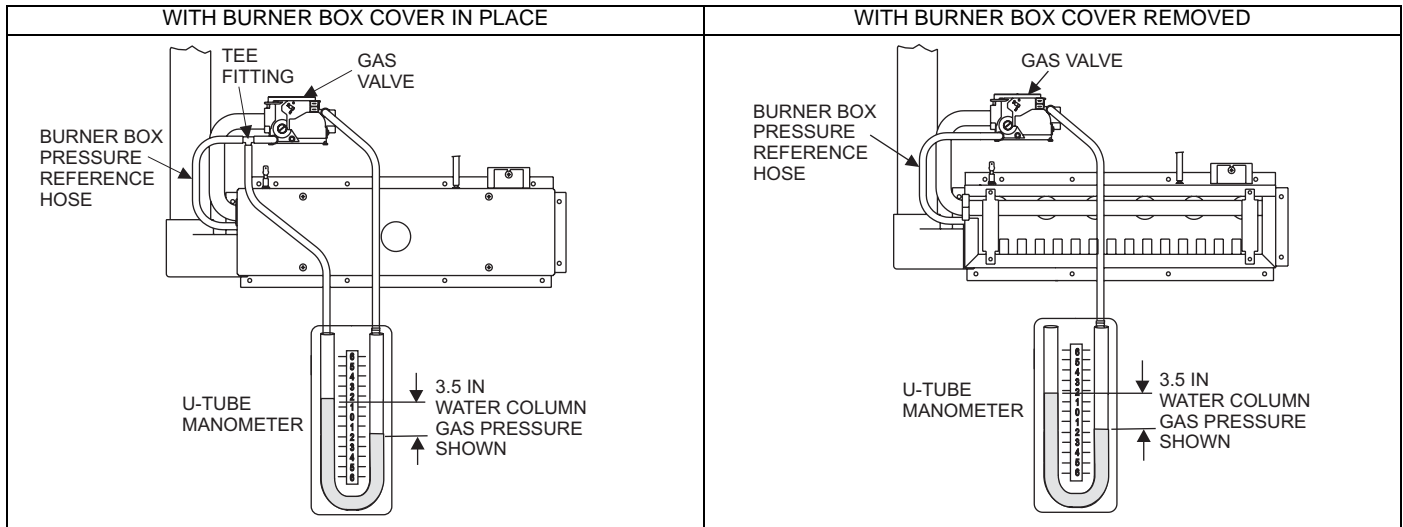

FIGURE 39: Reading Gas Pressure
- E. Use the 5/16" (0.8 cm x 1/8" (0.3 cm) reducing coupling and a 4" (10.2 cm) piece of 1/8" (0.3 cm) tubing to connect the positive side of the manometer to the gas valve pressure reference port. Refer to Figure 39 for connection details.
Remove the screws securing the burner box front cover plate. Remove the cover. The gasket and may stick in place. Connect the positive side of the manometer to the gas valve as described in E above. There will be no second connection to the manometer, as it will reference atmospheric pressure. Refer to Figure 39 for connection details.